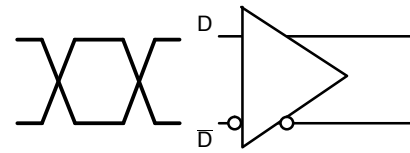

Figure 16. Differential Inputs Driven Differentially
**DIFFERENTIAL INPUTS DRIVEN DIFFERENTIALLY** (Figures 16 and 18)